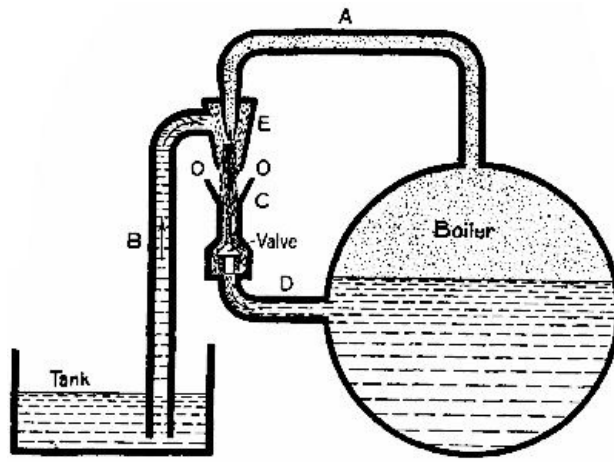

FIG. 15.—Diagram illustrating the principle of a steam-injector.
The water inside a boiler is kept at a proper level by (1) pumps or (2) injectors. The former are most commonly used on stationary and marine boilers. As their mechanism is much the same as that of ordinary force pumps, which will be described in a later chapter, we may pass at once to the *injector*, now almost universally used on locomotive, and sometimes on stationary boilers. At first sight the injector is a mechanical paradox, since it employs the steam from a boiler to blow water into the boiler. In Fig. 15 we have an illustration of the principle of an injector. Steam is led from the boiler through pipe A, which terminates in a nozzle surrounded by a cone, E, connected by the pipe B with the water tank. When steam is turned on it rushes with immense velocity from the nozzle, and creates a partial vacuum in cone E, which soon fills with water. On meeting the water the steam condenses, but not before it has imparted some of its *velocity* to the water, which thus gains sufficient momentum to force down the valve and find its way to the boiler. The overflow space O O between E and C allows steam and water to escape until the water